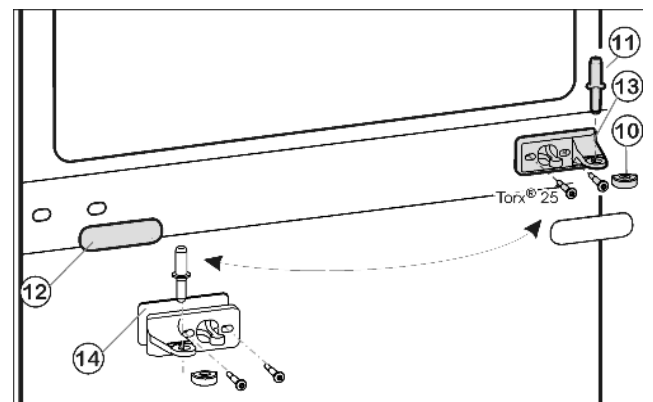
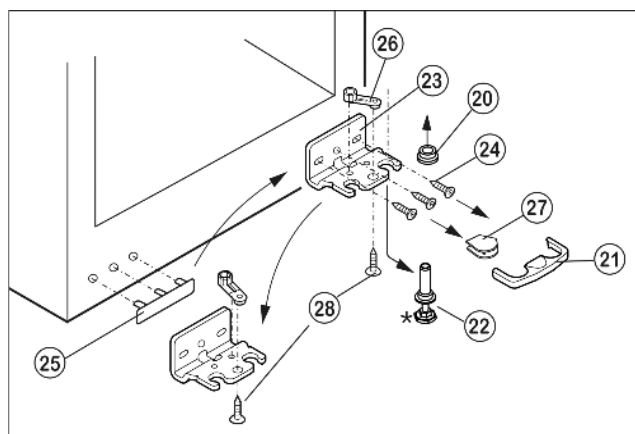

Fig. 5
Fig. 6
- ▶ Draw the middle bearing pin Fig. 5 (11) out of the turn hinge and lower door.
- ▶ Remove the plastic cap Fig. 5 (10).
- ▶ Detach the middle turn hinge Fig. 5 (13).
- ▶ Carefully detach the cover panel Fig. 5 (12).
- ▶ Turn the middle turn hinge Fig. 5 (13) through 180° and screw it firmly into place on the new hinge side (with 4 Nm).
- ▶ Turn the cover panel Fig. 5 (12) through 180° and snap it into place again on the new handle side.
- ▶ Draw the safety lock Fig. 6 (21).
- ▶ Remove the cover Fig. 6 (27).\*
- ▶ Fully retract the adjustable-height foot Fig. 6 (22).
- ▶ Pull out the bearing pin Fig. 6 (22) downwards and forwards. In so doing, pay attention to the hinge bush Fig. 6 (20).
- ▶ Unscrew the turn hinge Fig. 6 (23) (3 Torx 25) Fig. 6 (24).
- ▶ Unscrew the bearing part Fig. 6 (26) (1 Torx 25), Fig. 6 (28).
- ▶ Carefully lift off and transfer the cover Fig. 6 (25) on the handle side.
- ▶ Screw the turn hinge Fig. 6 (23) firmly into place on the new hinge side, possibly using a cordless screwdriver (with 4 Nm).
- ▶ Place the cover Fig. 6 (27) on the opposite side.\*
- ▶ The safety lock (21) has to engage with the turn hinge at the side so that the bearing pin and therefore the door are secured.
- ▶ Snap the safety lock (21) onto the turn hinge again.
- ▶ Put on the hinge bush Fig. 6 (20).
- ▶ Place the lower door from above onto the lower bearing pin Fig. 6 (22).
- ▶ Place the plastic cap Fig. 5 (10) back onto the middle turn hinge Fig. 5 (13).
- ▶ Place the middle bearing pin Fig. 5 (11) in the lower door, on the new hinge side, through the middle turn hinge Fig. 5 (13).
- ▶ Place the upper door on the middle bearing pin Fig. 5 (11).
- ▶ If necessary, align the doors to the appliance housing by way of the two oblong holes in the lower turn hinge Fig. 6 (23) and middle turn hinge Fig. 5 (13). To do so, unscrew the middle screw in the lower turn hinge Fig. 6 (23).